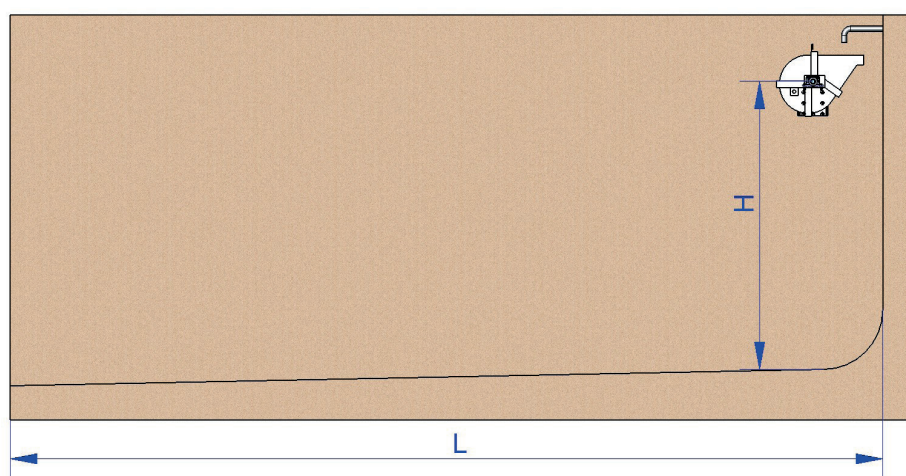

Fig. 4
- It is very important that the height (dimension “H” in fig. 4) from the floor to the self-tilting cleaner be as great as possible. The higher the cleaner is installed, the more powerful the wave that is generated.
- The capacity of the self-tilting cleaner is determined according to the length (dimension “L” in fig. 4) of the channel or lane to be cleaned. The longer the length of the channel or lane, the greater the capacity of the cleaner will need to be. This capacity usually ranges between 200 and 2000 litres per meter of hopper.